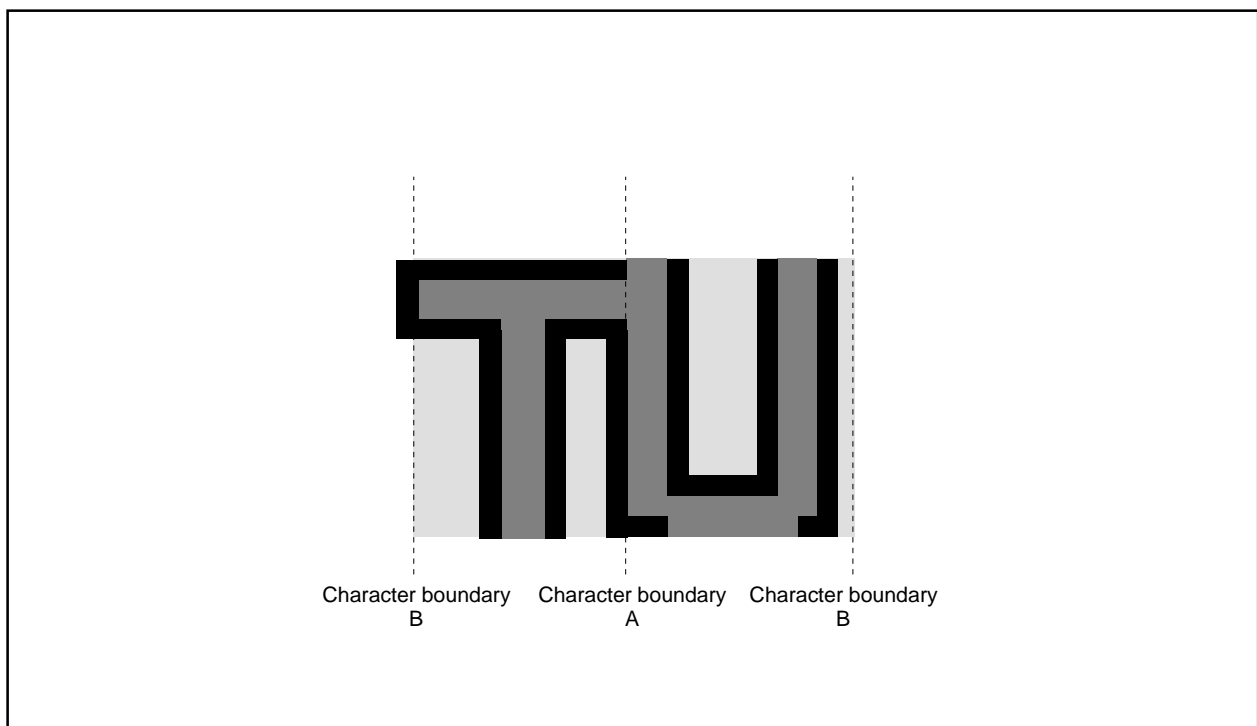

Figure 2.16.37 Border priority
**2 :** When the border dot overlaps on the next character font, the character font has priority (refer to Figure 2.16.37 A). When the border dot overlaps on the next character back ground, the border has priority (refer to Figure 2.16.37 B).